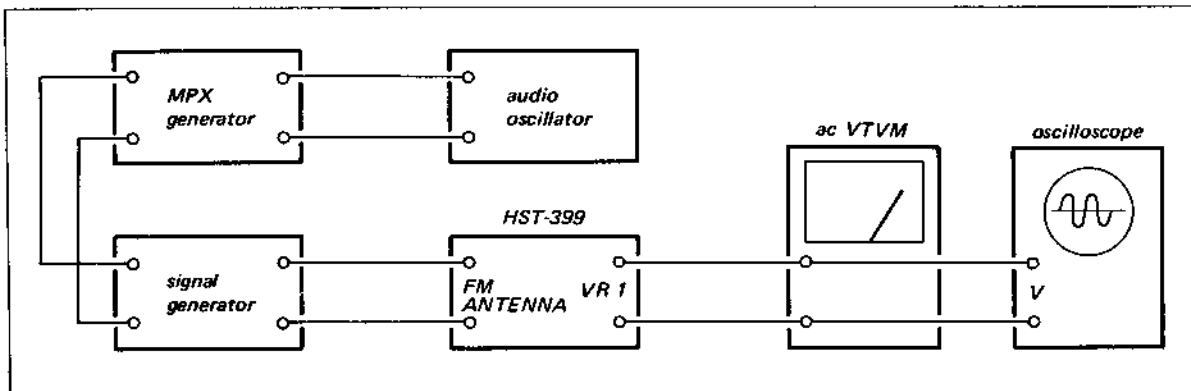

Fig. 3-17 Fm stereo distortion adjustment test setup
1. With the equipment connected as shown in Fig. 3-17, set the signal generator's controls as follows:
- (a) With the equipment connected as shown in Fig. 3-17, set the MPX stereo generator's controls as follows: